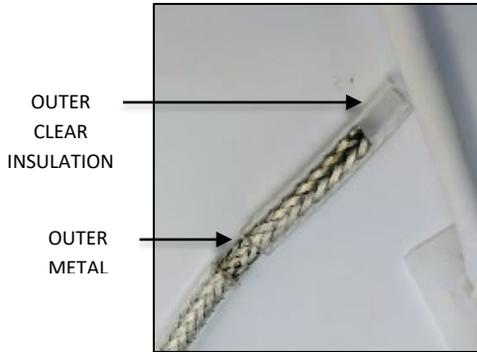
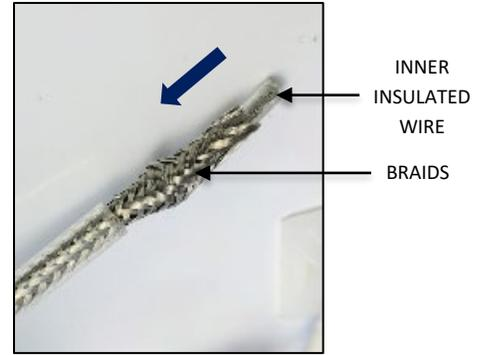

FIG. 38
FIG. 39
- Strip off 1.00" of outer clear insulation exposing the outer metal braiding as shown in FIG. 38 below. **Be careful not to cut or damage the outer metal braiding.** Gently push braiding down to loosen the individual braids exposing the inner insulated wire as shown in FIG. 39 below.